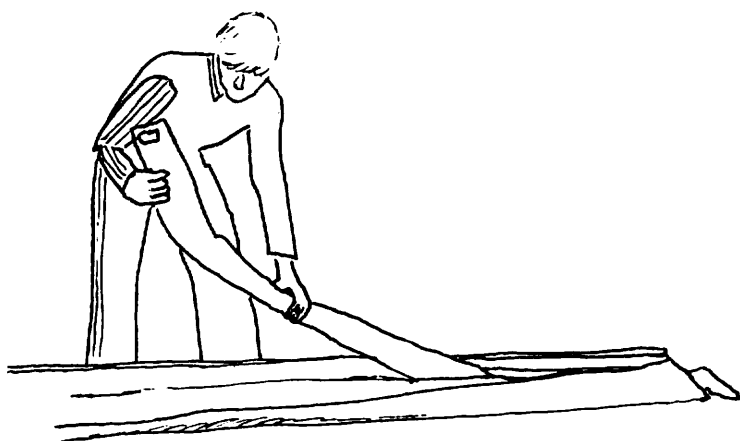

FIG 2
2) Undo the zipper, and remove the battens from between the rear leading edges as shown. (Fig 2)